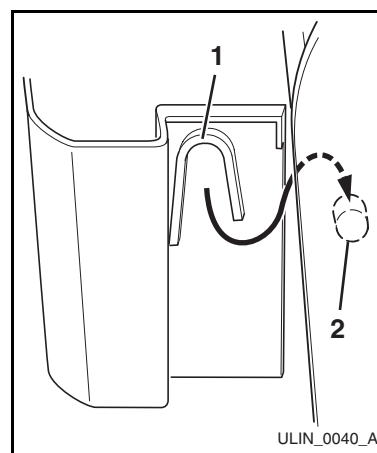

Figure 47
1. Grasp shelf in center, and lift until the shelf notches **(Figure 47, 1)** clear the bosses **(Figure 47, 2)**.
1. Holding the shelf in the center, center the shelf in the door at the desired location, slightly above the bosses **(Figure 47, 2)**.
2. Lower the shelf onto the bosses **(Figure 47, 2)**.